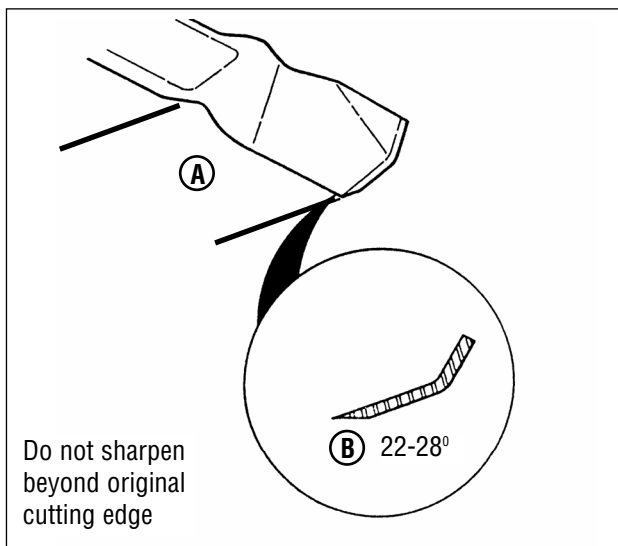

Figure 13: Sharpening the mower blade
- Sharpen the blade on a grinding wheel at an angle of 22 to 28 degrees (**B**, **Figure 13**). DO NOT sharpen the blade beyond the original cutting edge (**A**).